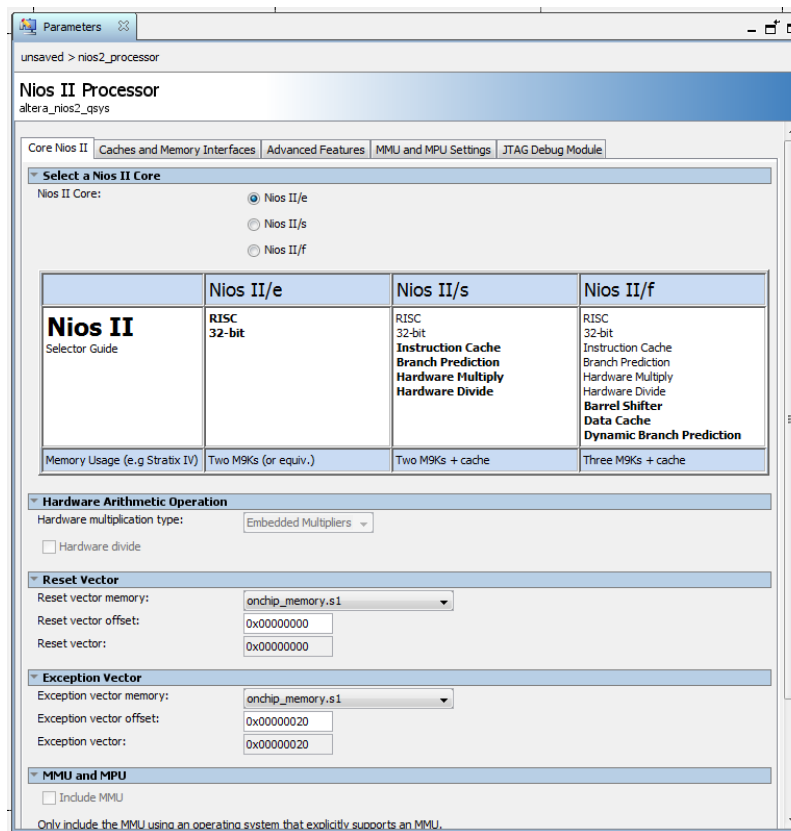

Figure 17. Define the reset and exception vectors.
- Right-click on the *nios2_processor* component in the window displayed in Figure 16, and then select **Edit** to reach the window in Figure 17
- Select *onchip_memory.s1* to be the memory device for both reset and exception vectors, as shown in Figure 17